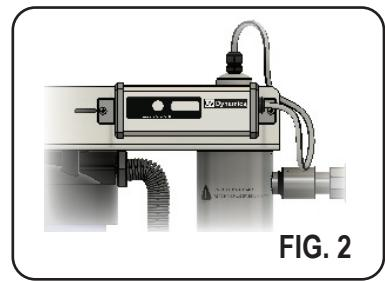

FIG. 2
- 4 Mount the electronic ballast on the front of the top plate, using the two (2) screws and two (2) nuts provided. See FIG 2.